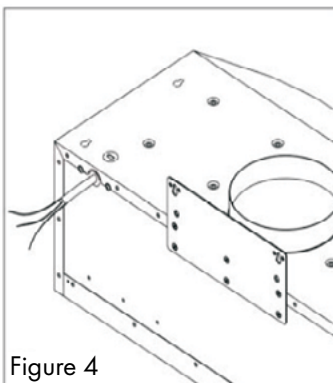

Figure 4
2. Draw electrical wires through the opening at the back of the hood, as shown in Figure 4.
1. Measure the distance between stove top and the bottom of range hood and draw electrical wires through the back of the hood as outlined in Figure 4 below.